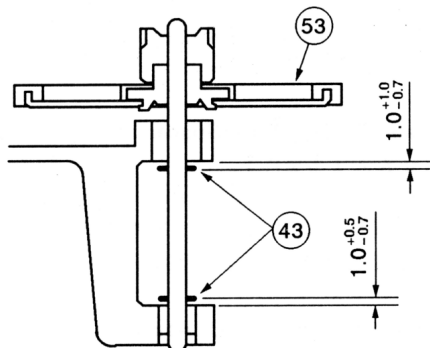

Fig. 4-4
- For position of the (43) washers after reinstalling the (53), refer to Fig. 4-4. Wipe out the oil lubricated to the shaft with an alcohol.
- 1). Remove (58) from the Mechanism Base Unit.
- 2). Unscrew the two (33)-d screws, then remove (57).
- Notes** : • Be careful NOT to scratch the gear of (57).
• Be careful NOT to let grease adhere to (58).
- (53) 取り付け後の (43) ワシヤの位置は、Fig. 4-4を参照のこと。また、シャフトのオイルをアルコール等で拭き取ること。